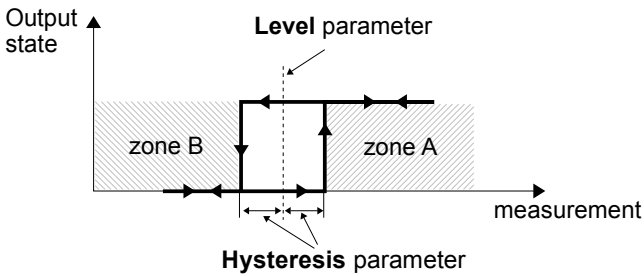
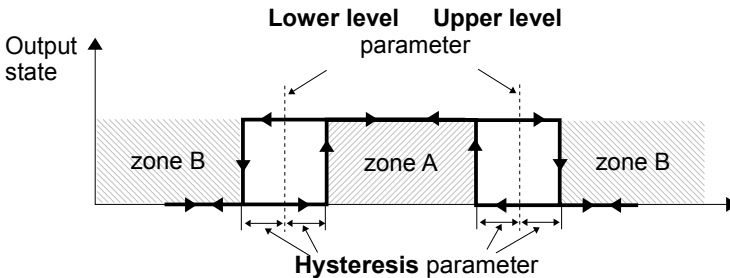

Fig. 7.85. One threshold control of the relay outputs
Fig. 7.86. Two threshold control of the relay outputs
- **Mode** - this parameter allows the user to select the method of operation of the output, the **Mode** parameter has the following options (see **Fig. 7.85** and **Fig. 7.86**):
Levels parameter block (see **Fig. 7.85**, **Fig. 7.86** and **Fig. 7.87**)
- **Hysteresis** – by defining this parameter the user can move the level for changes in the output state (see **Fig. 7.85** and **Fig. 7.86**),